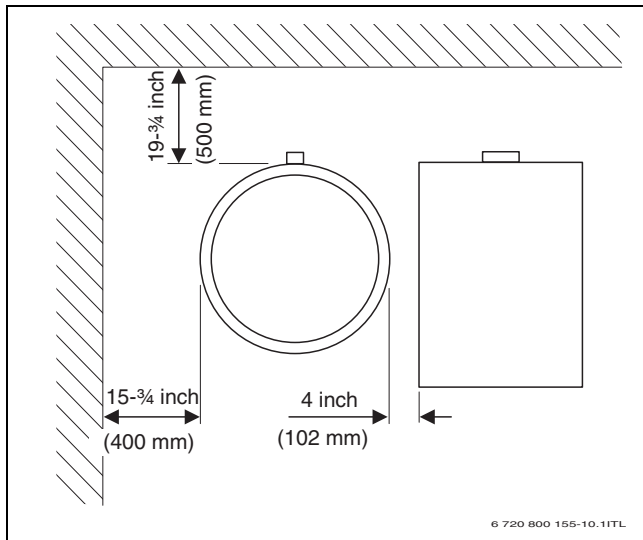

Fig. 7 Recommended minimum wall clearances
- ▶ Observe minimum room height (→ Tab. 6, page 8) and minimum wall clearance in installation room (→ Fig. 7, page 10).